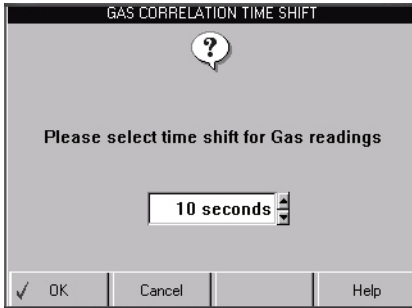

Figure 9.5: Gas Correlation Time Shift Screen
- b On the scan tool, press the **More** function key, use the **Direction** key to select **Gas Options**, and press the **ENTER** key. This displays the Gas Correlation Time Shift screen (Figure 9.5 on page 54).